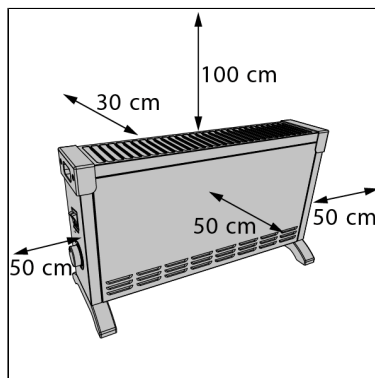

Figure 8.
5. Place the device with a minimum clearance distance (Figure 8):